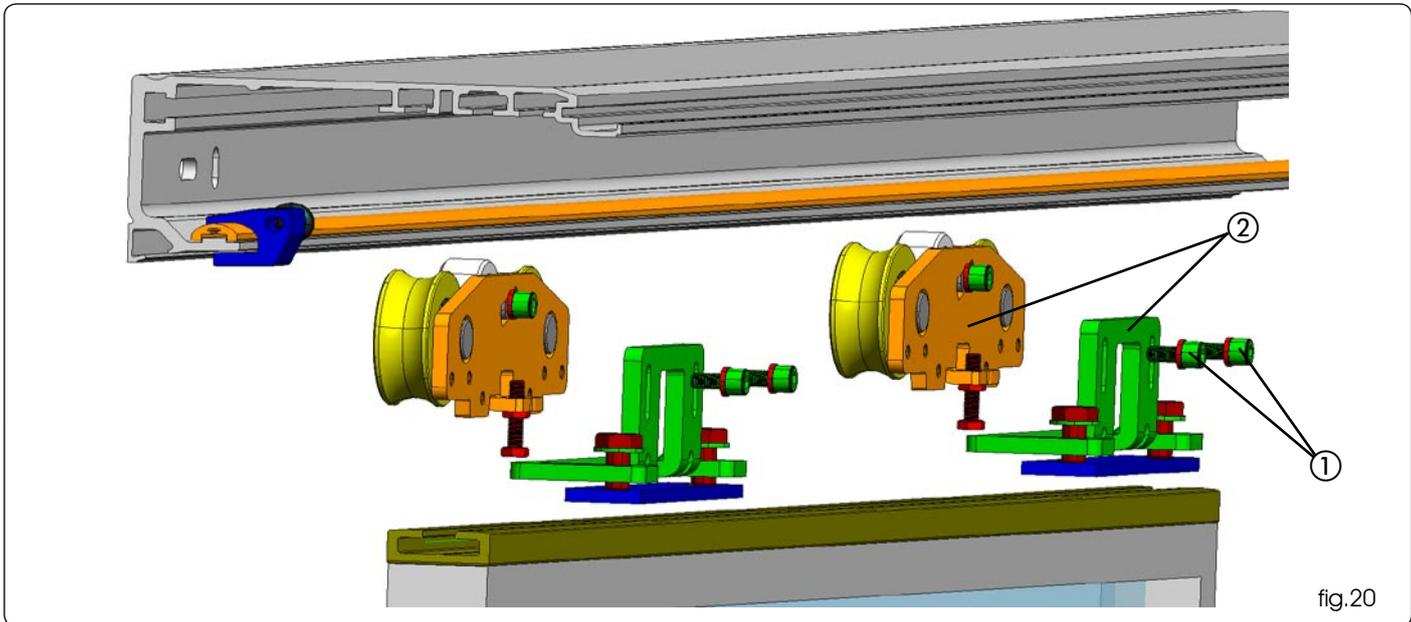

fig.20
Disassemble the carriage by withdrawing the upper and lower plate of the carriage fig.20 ref.
② and removing the 2 fastening screws M6 fig.20 ref. ①.